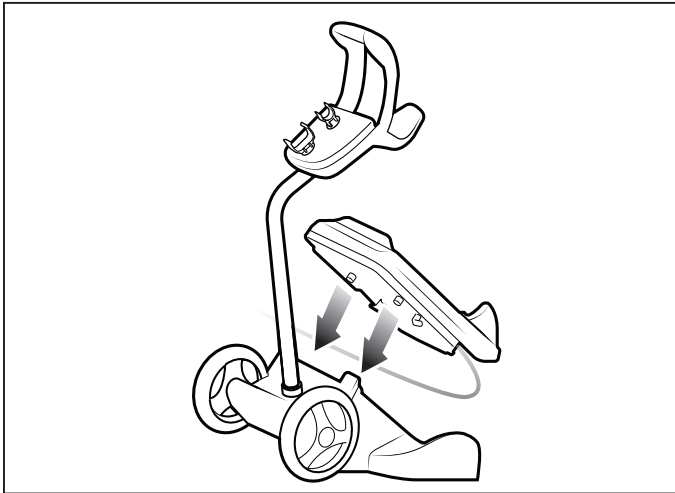

Figure 2. Assemble Charging Station
1. Insert the charging station onto the charging caddy. Firmly push the charging station guides into the charging caddy holes until charging station is secure, see Figure 2.